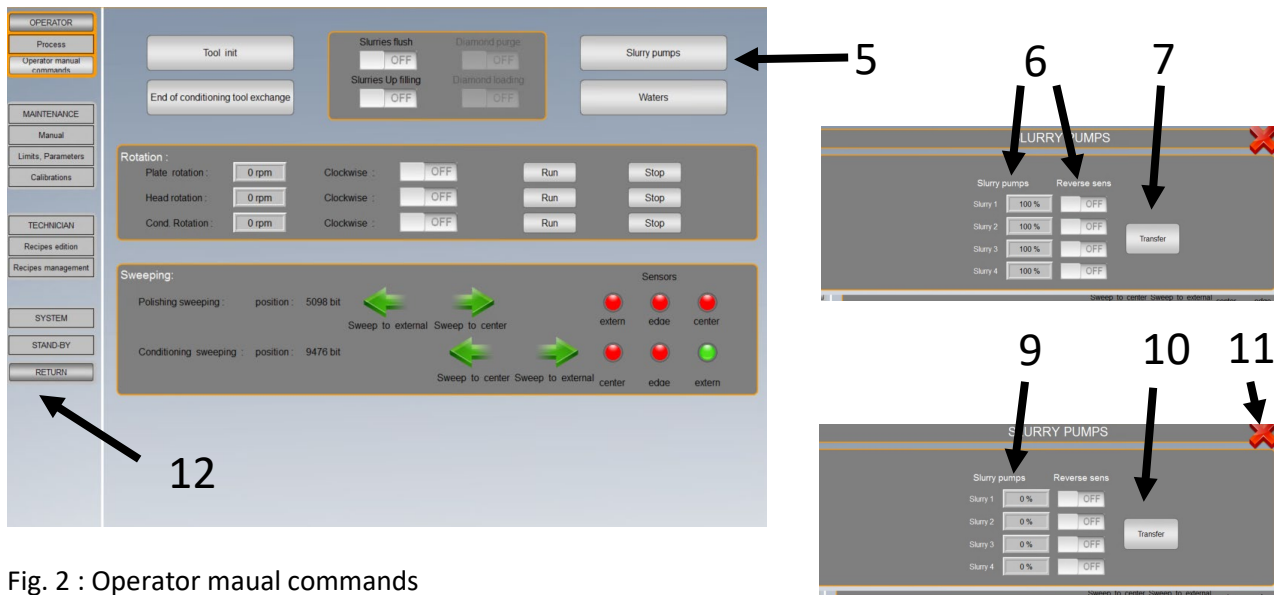

Fig. 2 : Operator manual commands
5. Click on "Slurry pumps" menu to open the window for manual operations (fig. 2).